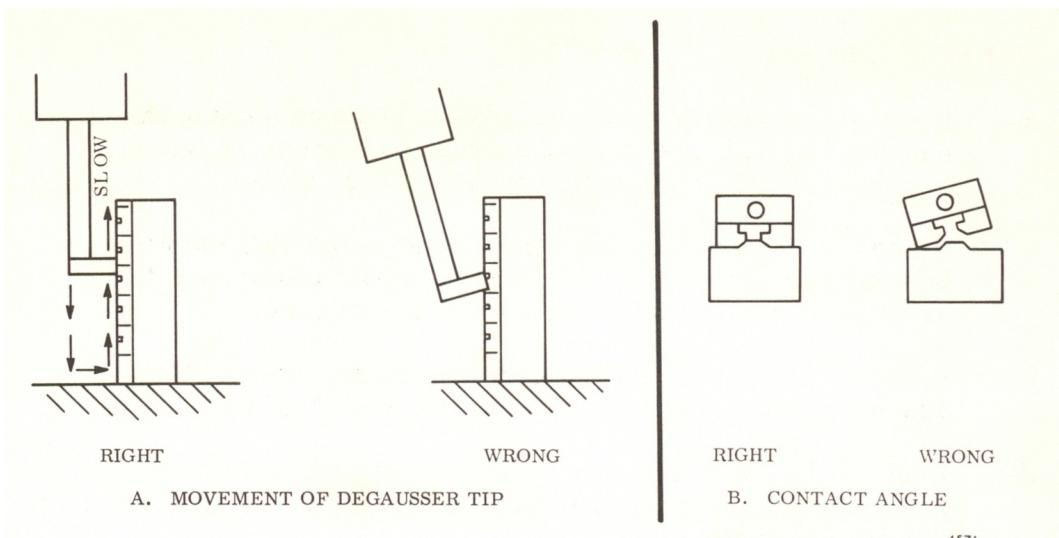

Figure 5.1-1. Head Degaussing
- g. Slowly move the degausser into position over the reproduce head stack following the path shown in Figure 5.1-1. Carefully place the degausser pole tips in light contact with the front of the head stack keeping the degausser tip parallel to the head surface.